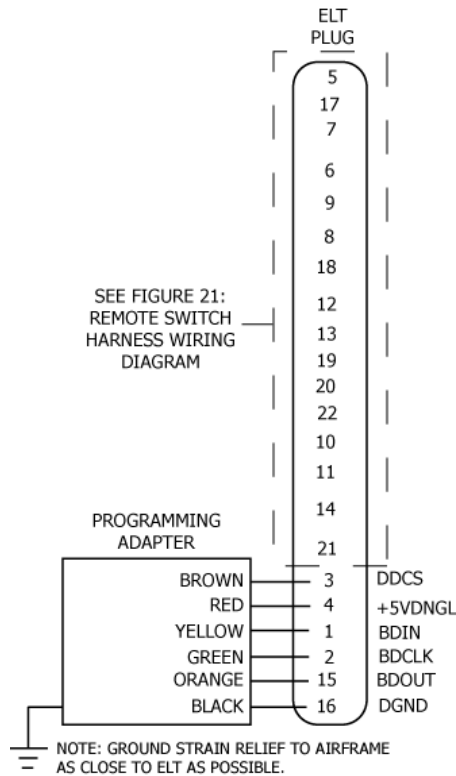

Figure 29 Programming Adapter Interface Wiring Diagram
- 4) Terminate the contact sockets of the six PA wires in the remote switch harness ELT plug using insertion tool MS27495A22MS, or equivalent. See Figure 29 Programming Adapter Interface Wiring Diagram.